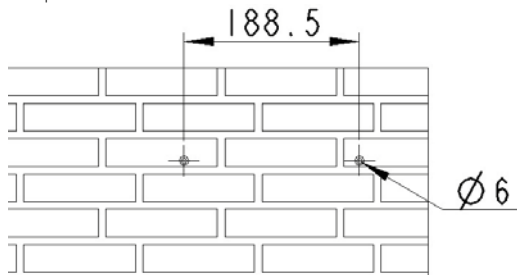

Fig.4-1: Drill the holes
Step 1: Drill two holes using **Ø6 bit for installing screws at the selected** installation position. The distance between the two holes is shown in Fig. 4-1. The holes should be at least 30mm deep. After clearing the dust from the holes, measure the net depth of the holes.